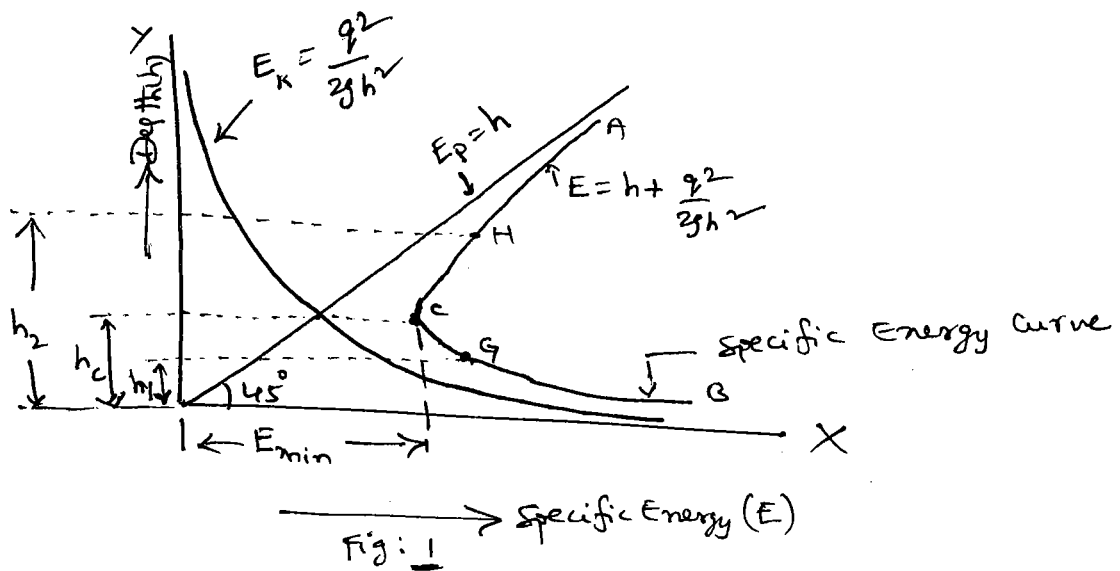

Fig: 1
The specific energy curve may also be obtained by first drawing a curve for potential energy (i.e.  $E_p = h$ ), which will be a straight line passing through the origin, making an angle of  $45^\circ$  with the  $x$ -axis as shown in fig 1.
Then drawing another curve for kinetic energy (i.e.  $E_k = \frac{q^2}{2gh^2}$ ) which will be a parabola as shown in fig 1. By combining these two curves, we can obtain the specific energy curve. In figure ①, curve  $ACB$  denotes the specific energy curve.